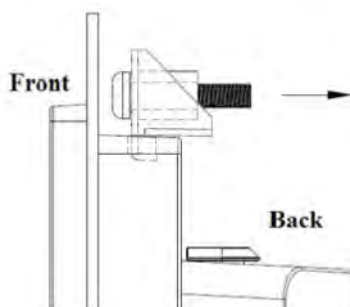

Figure 2.9 Hook Bracket Location
3. Insert the hook brackets into the mount holes in a downwards direction (as shown in Figure 2.9). Then hang the panel PC.